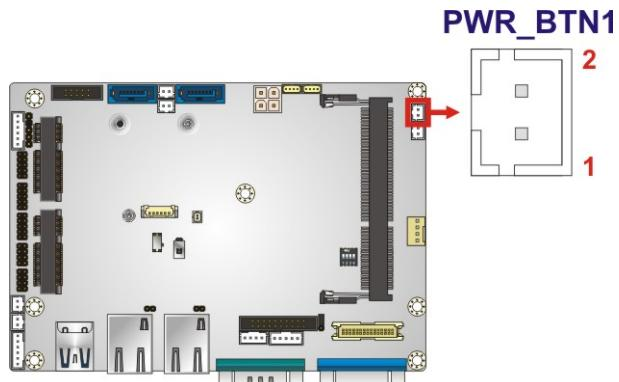

Figure 3-18: Power Button Connector Location
**CN Location:** See Figure 3-18